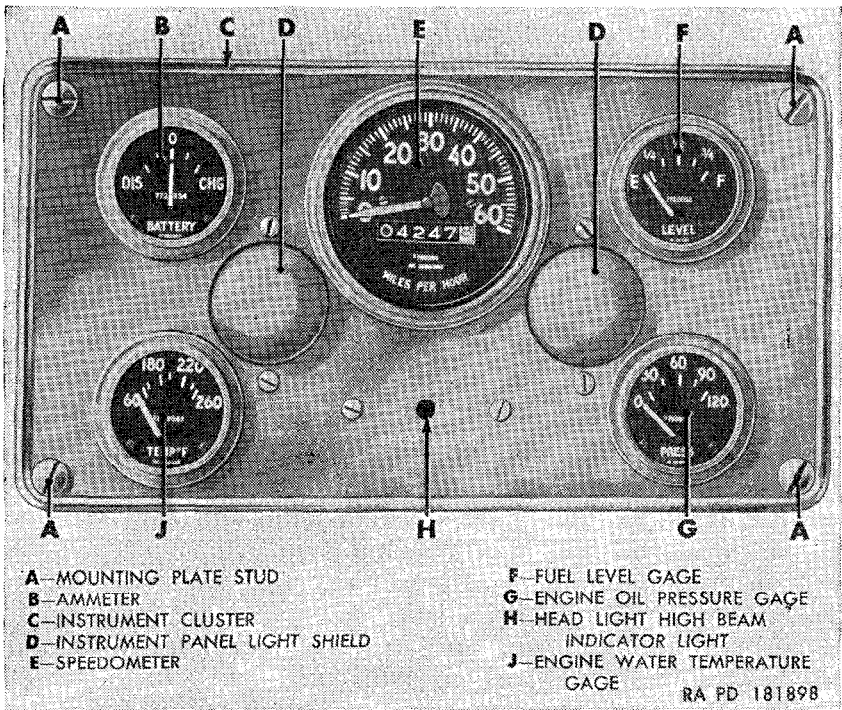

Figure 112. Instrument cluster (M38A1)—front view.
*a. Instrument Cluster* (figs. 112 and 113). The speedometer, ammeter, engine oil pressure gage, water temperature gage, fuel level gage, two instrument panel lights, and headlight high beam indicator light are mounted in the instrument panel mounting plate located in the instrument panel. This assembly is referred to as the instrument cluster. The location and function of the various units in the instrument cluster are described in paragraphs 33 through 39.
*a. Removal.* Disconnect the ground cable 7 (par. 162b(8) (a) and (b)). Turn each of the four instrument cluster mounting plate studs (A, fig. 112) one-half turn counterclockwise and pull instrument cluster free from instrument panel. Unscrew the nut securing the
40 at double connector R. Connect cable 17 at connector U. Connect cable 27 to connector T. Position speedometer flexible shaft assembly in rear of speedometer and tighten nut securing shaft to speedometer (DD). Install instrument cluster in instrument panel and secure in position by turning the four instrument cluster mounting plate studs (A, fig. 112) one-half turn clockwise. Connect ground cable 7 (par. 162b(9)(b) and (c)).
Disconnect ground cable 7 (par. 162b(8)(a) and (b)). Turn the four instrument cluster mounting plate studs (A, fig. 112) one-half
turn counterclockwise and pull instrument cluster free from instrument panel. Disconnect cables 8 and 9 from terminals H and L. Remove the nuts and lockwashers (K) securing the ammeter (B, fig. 112) and ammeter mounting bracket (J) in position and remove bracket and ammeter from instrument panel mounting plate (E).
Position the ammeter in the instrument panel mounting plate (E) and rotate ammeter until it engages the locating slot in the plate. Position ammeter mounting bracket (J) over the ammeter and secure ammeter and bracket in position with two No. 8 lockwashers and nuts (K). Install cable 8 on terminal H and cable 9 on terminal L. Position the instrument cluster on the instrument panel and turn the four instrument cluster mounting plate studs (A, fig. 112) one-half turn clockwise. Connect ground cable 7 (par. 162b(9)(b) and (c)).
*a. Removal.* The removal procedure for the fuel level gage (F, fig. 112) is the same as the removal procedure for the ammeter (par. 174a) with the exception of the mounting bracket and the cables.
*b. Installation.* The installation procedure for the fuel level gage (F, fig. 112) is the same as installation procedure for the ammeter (par. 174*b*) with the exception of mounting bracket and cables. The fuel gage mounting bracket (B, fig. 114) is used. Install cable 28 on terminal (A, fig. 114) and cable 27 on terminal (D, fig. 114).
*a. Removal.* The removal procedure for the engine water temperature gage (J, fig. 112) is the same as the removal procedure for the ammeter (par. 174*a*) with the exception of the mounting bracket and the cables. Water temperature gage mounting bracket (N, fig. 114) is used. Disconnect cable 27 from terminal (Q, fig. 114) and cable 33 from terminal (M, fig. 114).
*a. Removal.* The removal procedure for the engine oil pressure gage (G, fig. 112) is the same as removal procedure for the ammeter (par. 174*a*) except for the mounting bracket and cables. Oil pressure gage mounting bracket (V, fig. 114) is used. Disconnect cable 27 from terminal (Y, fig. 114) and cable 36 from terminal (W, fig. 114).
*b. Installation.* Installation of the engine oil pressure gage (G, fig. 112) is the same as installation of the ammeter (par. 174*b*) with the exception of the mounting bracket and cables. Oil pressure gage mounting bracket (V, fig. 114) is used. Install cable 36 on terminal (W, fig. 114) and cable 27 on terminal (Y, fig. 114).
- (1) Turn the four instrument cluster mounting plate studs (A, fig. 112) one-half turn counterclockwise and pull the instrument cluster free from instrument panel.
- (2) Unscrew the nut securing the speedometer flexible shaft assembly to the speedometer (DD), and pull shaft out of speedometer.
- (3) Remove the nut (CC), lockwasher, and plain washer securing the instrument cluster circuit breaker-to-gages wiring harness
- (1) Position the speedometer (DD) in the instrument panel mounting plate (E) and locate speedometer mounting bracket (F) over speedometer mounting studs.
- (2) Install a No. 8 lockwasher on speedometer lower mounting stud, and screw the wiring harness mounting stud (BB) on the speedometer mounting stud.
- (3) Install the 0.322-inch ID plain washer, instrument cluster circuit breaker-to-gages wiring harness (AA), 0.203-inch ID plain washer, and No. 8 nut (CC) on the wiring harness mounting stud. Install a No. 8 lockwasher and nut (G) on the remaining speedometer mounting stud.
- (4) Install the speedometer flexible shaft assembly in the speedometer (DD) and tighten nut securely.
- (5) Position instrument cluster on instrument panel and turn the four instrument cluster mounting plate studs (A, fig. 112) one-half turn clockwise.
*a. Removal (M38A1).* Turn the four instrument cluster mounting plate studs (A, fig. 112) one-half turn counterclockwise and pull instrument cluster free from instrument panel. The two instrument panel lights with cables are permanently connected together in double connector (R) and must be replaced as one unit. Disconnect cable 40
at double connector (R). Remove the four screws and lockwashers securing the instrument panel lights (Z) to the instrument panel mounting plate (E) and remove lights and instrument panel light shields (D, fig. 112).
*b. Installation (M38A1).* Position the instrument panel light shields (D, fig. 112) in the instrument panel mounting plate (E). Position the two instrument panel lights on the plate and secure each one with two No. 8 x  $\frac{5}{16}$  screws and No. 8 lockwashers. Connect cable 40 to double connector R. Position instrument cluster on instrument panel and turn the four instrument cluster mounting plate studs (A, fig. 112) one-half turn clockwise.
*e. Lamp Replacement (M38A1).* Turn the four instrument cluster mounting plate studs (A, fig. 112) one-half turn counterclockwise and pull instrument cluster free from instrument panel. Press in on the cover of the instrument panel light (Z), turn counterclockwise and pull cover off light body. Press in and turn lamp counterclockwise, to disengage it from lamp socket and remove lamp. Install new lamp by pressing lamp into socket and turning clockwise. Install instrument panel light cover by pressing in and turning clockwise in lamp body. Position instrument cluster on instrument panel and turn the four instrument cluster mounting plate studs (A, fig. 112) one-half turn clockwise.
*a. Removal (M38A1).* Turn the four instrument cluster mounting plate studs (A, fig. 112) one-half turn counterclockwise and pull instrument cluster free from instrument panel. Disconnect cable 17 at connector (U, fig. 114). Remove the two screws and lockwashers securing the headlight high beam indicator light in position and remove indicator light.
*b. Installation (M38A1).* Position the headlight high beam indicator light (S, fig. 114) on the instrument panel mounting plate (E, fig. 114) and secure in position with two No. 8 x 1/2 screws and No. 8 lockwashers. Connect cable 17 to connector (U, fig. 114). Position instrument cluster on instrument panel and turn the four instrument cluster mounting plate studs (A, fig. 112) one-half turn clockwise.
*e. Lamp Replacement (M38A1).* Turn the four instrument cluster mounting plate studs (A, fig. 112) one-half turn counterclockwise and pull instrument cluster free from instrument panel. Turn the cover of the headlight high beam indicator light (S, fig. 114) counterclockwise and pull cover out of light body. Press in and turn lamp counterclockwise to disengage it from lamp socket. Install new lamp by pressing it into lamp socket and rotating clockwise. Position indicator light cover on light body, press in and turn cover clockwise to engage with light body. Position instrument cluster on instrument panel and turn the four instrument cluster mounting plate studs (A, fig. 112) one-half turn clockwise.